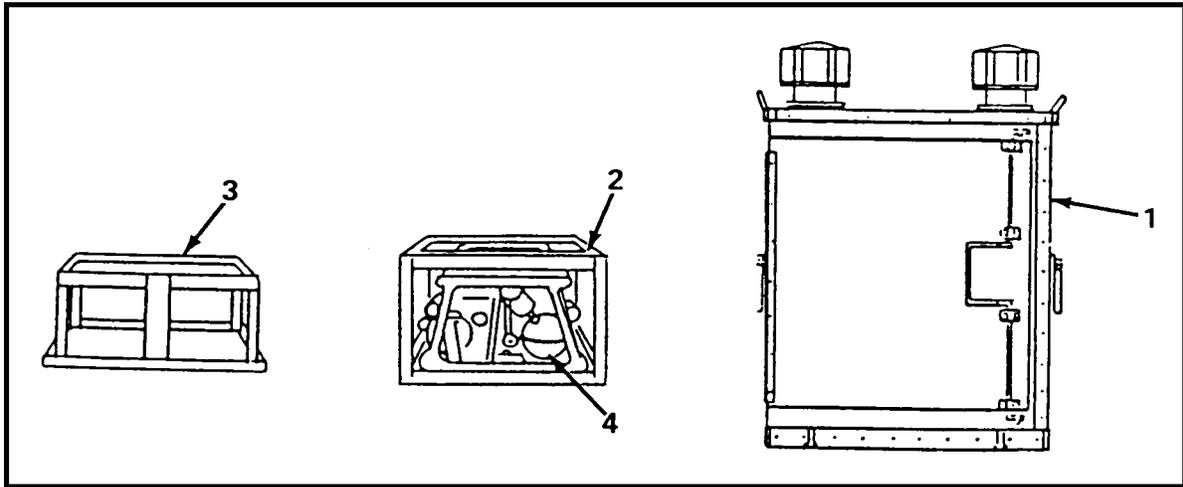

Figure 2-11. Modular oven.
1. Turn the M2 burner off. (See Figure 2-11.)
- d. Remove the burner (4) from the burner rack (2). This requires an assistant.
2. Disassemble the oven. (See Figure 2-11.)
- a. Allow the oven (1) to cool, with the doors closed.
- b. Separate the oven assembly (1), burner rack (2), and base rack (3), return the M2 burner to the burner rack (4).